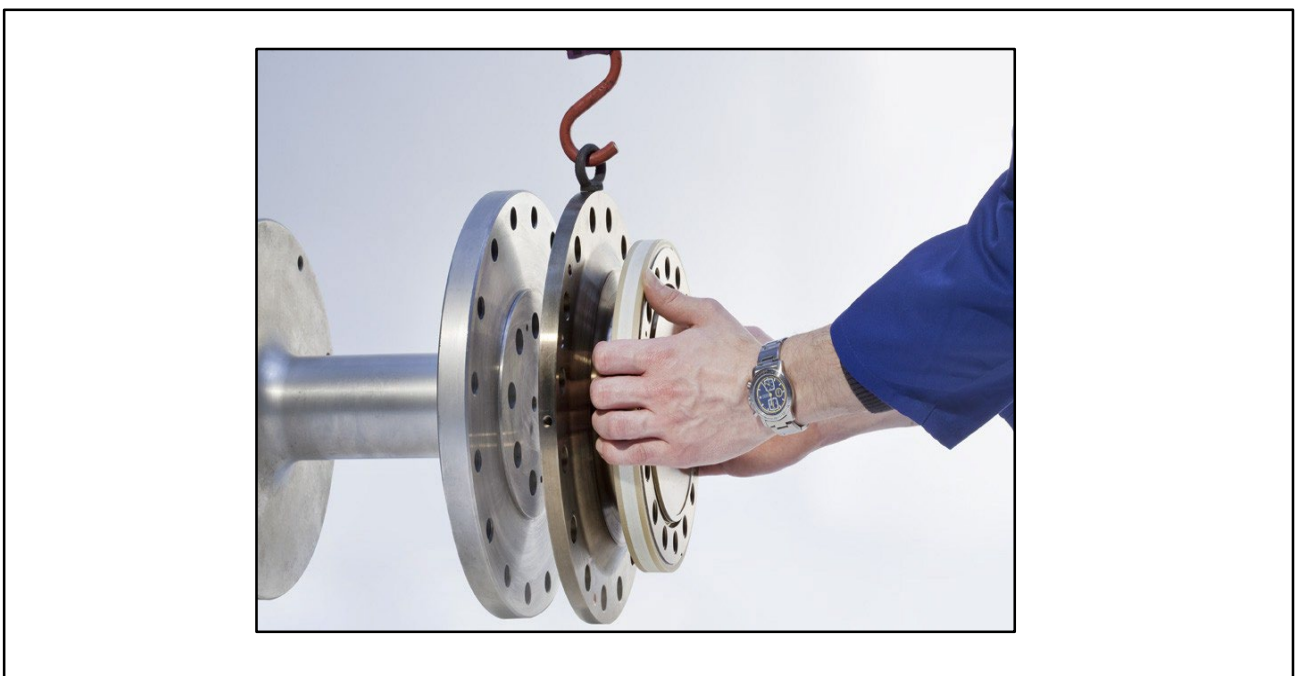

Fig 5.3: Rotor installation (horizontal)
3. If the rotor is to be installed horizontally as shown in Fig 5.3, remove *one* mounting eye bolt. Both mounting eye bolts can initially remain in the flange for vertical installation.